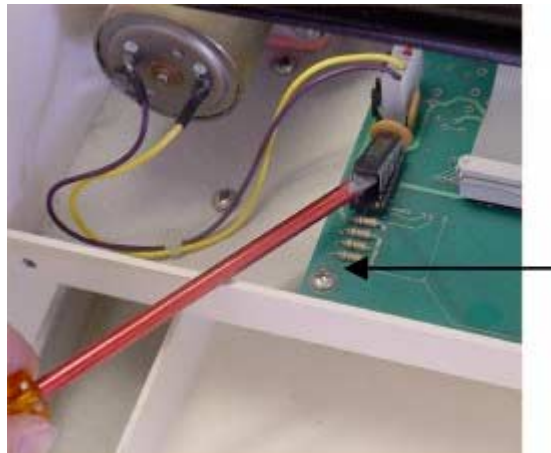

Figure 1-16
15. Remove motor driver chip and the corner screw that holds the motor driver board. See figure 1-16.